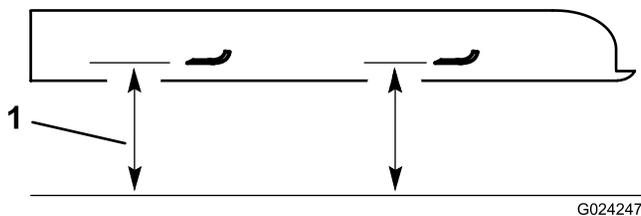

Figure 56
4. Measure from a level surface to the cutting edge, position A, of the blades (Figure 56).